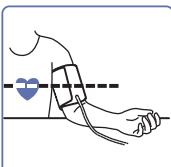

Fig. 6
- Sit on a chair and place your arm on the table so that the cuff is at the same level as your heart (Fig. 6).